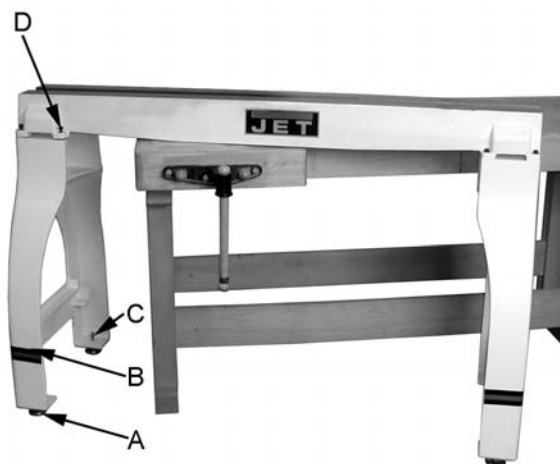

Figure 1
3. Remove hex cap bolts from skid bottom and lift the lathe bed, with the help from another person, off the skid and onto the edge of a workbench, as shown in Figure 1.
1. Angle lathe bed so that stand leg mounting holes are accessible, see Figure 1.
2. Thread adjustable feet (A, Fig. 1) into stand leg (B, Fig. 1). There is a flat spot on the shaft near the foot that will accommodate a wrench. Thread a hex nut (C, Fig. 1) onto shaft and leave loose for now.
3. Mount the leg to lathe bed with four 5/16" flat washers and four 5/16"-18 x 1-1/2" hex socket cap screws (D, Fig. 1).